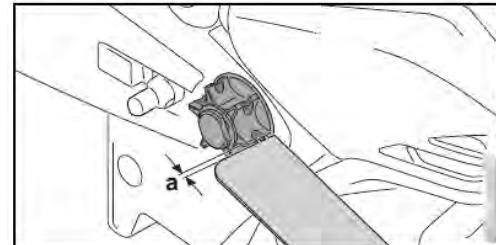

Fig. 10
- If wear marks are deeper than  $a = 0,5$  mm, do not use the tool and contact your dealer for maintenance. See Fig. 10.